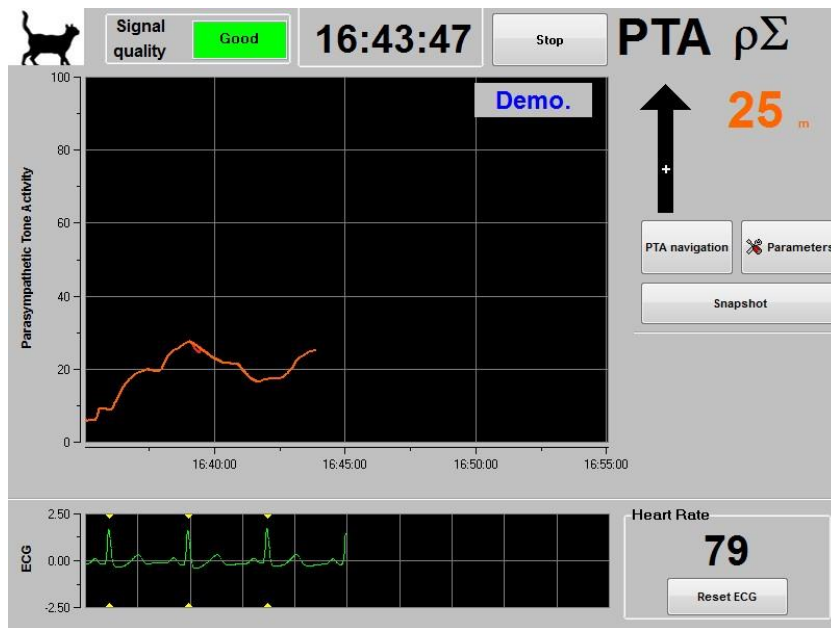

Figure 14
- “**Classic**” mode: there is no Energy index and no respiratory pattern. Only the composite curve and the ECG are displayed (figure 14).